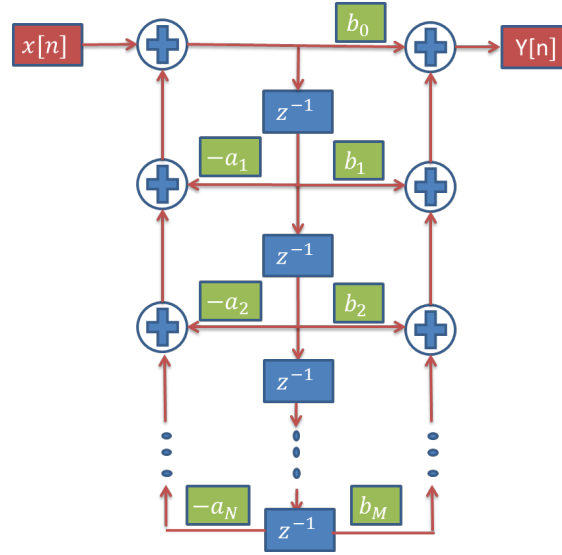

Figure 3: Block diagram for direct-form II structure for the IIR filter given by (2)
- We observe that, the signals at the points 1 and 1', 2 and 2' and so on, are identical. So, rather than using separate delay elements (note that each delay element in the structure is equivalent to an extra memory space in the buffer) to generate these pairs of signals, we combine them to get a more efficient structure, in terms of memory usage, as is shown in the block diagram in Figure 3.